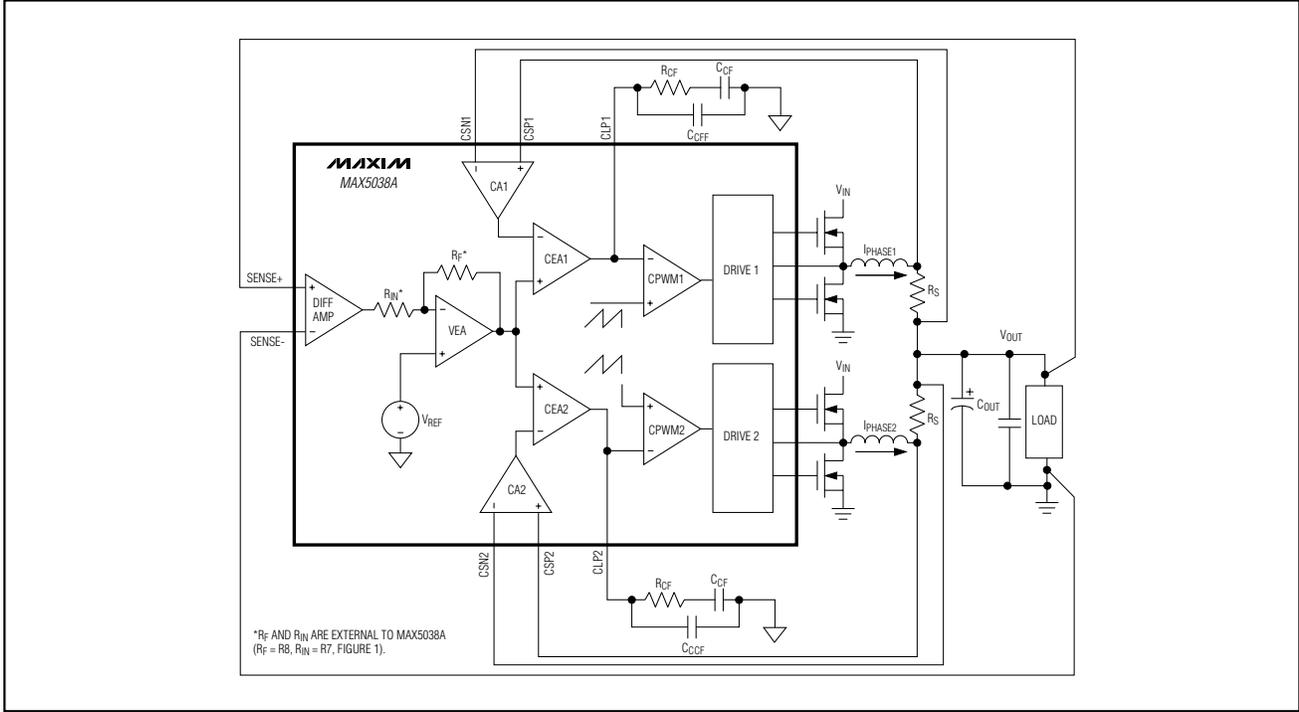

Figure 3a. MAX5038A Control Loop
The MAX5038A/MAX5041A use an average-current-mode control scheme to regulate the output voltage (Figures 3a and 3b). The main control loop consists of an inner current loop and an outer voltage loop. The inner loop controls the output currents (I_{PHASE1} and I_{PHASE2}) while the outer loop controls the output voltage. The inner current loop absorbs the inductor pole reducing the order of the outer voltage loop to that of a single-pole system.
The outer voltage control loop consists of the differential amplifier (DIFF AMP), reference voltage, and VEA. The unity-gain differential amplifier provides true differential remote sensing of the output voltage. The differential amplifier output connects to the inverting input (EAN) of the VEA. The noninverting input of the VEA is internally connected to an internal precision reference voltage. The MAX5041A reference voltage is set to +1.0V and the MAX5038A reference is set to the preset output voltage. The VEA controls the two inner current loops (Figures 3a and 3b). Use a resistive feedback network to set the VEA gain as required by the adaptive voltage-positioning circuit (see the *Adaptive Voltage Positioning* section).
Each phase of the MAX5038A/MAX5041A has a dedicated transconductance current-error amplifier (CEA₋) with a typical g_m of 550 μ S and 320 μ A output sink and source current capability. The current-error amplifier outputs, CLP1 and CLP2, serve as the inverting input to the PWM comparator. CLP1 and CLP2 are externally accessible to provide frequency compensation for the inner current loops (Figures 3a and 3b). Compensate CEA₋ such that the inductor current down slope, which becomes the up slope to the inverting input of the PWM comparator, is less than the slope of the internally generated voltage ramp (see the *Compensation* section).
The differential amplifier (DIFF AMP) facilitates output voltage remote sensing at the load (Figures 3a and 3b). It provides true differential output voltage sensing while rejecting the common-mode voltage errors due to high-current ground paths. Sensing the output voltage directly at the load provides accurate load voltage sensing in high-current environments. The VEA provides the difference between the differential amplifier output (DIFF) and the desired output voltage. The differential amplifier has a bandwidth of 3MHz. The difference between SENSE+ and SENSE- regulates to the preset output voltage for the MAX5038A and regulates to +1V for the MAX5041A.
The VEA output clamps to +0.9V (plus the common-mode voltage of +0.6V), thus limiting the average maximum current from individual phases. The maximum average-current-limit threshold for each phase is equal to the maximum clamp voltage of the VEA divided by the gain (18) of the current-sense amplifier. This allows for accurate settings for the average maximum current for each phase. Set the VEA gain using R_F and R_{IN} for the amount of output voltage positioning required as discussed in the *Adaptive Voltage Positioning* section (Figures 3a and 3b).
Average-current-mode control has the ability to limit the average current sourced by the converter during a fault condition. When a fault condition occurs, the VEA output clamps to +0.9V with respect to the common-mode voltage ($V_{CM} = +0.6V$) and is compared with the output of the current-sense amplifiers (CA1 and CA2) (see Figures 3a and 3b). The current-sense amplifier's gain of 18 limits the maximum current in the inductor or sense resistor to $I_{LIMIT} = 50mV/R_S$.